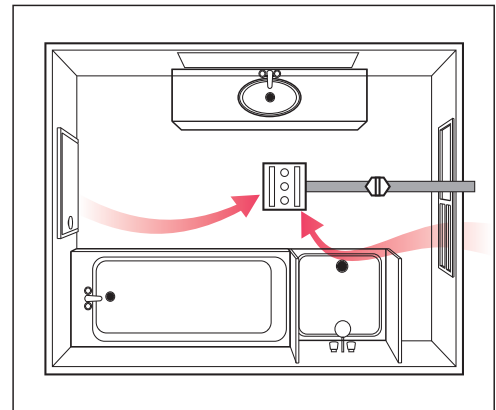

FIG.1
- To prevent moisture build up, bathrooms need a fan with the capacity to change the air volume of the room at least 15 to 20 times per hour. To ensure that the fan is working correctly, there needs to be air flow coming into the bathroom via an open window or from under a door. (FIG.1) Energy ratings under the Australian Building Code may require doorways to the bathroom to be sealed and this combined with a sealed window may reduce the effectiveness of any installed exhaust fan. No matter what brand.